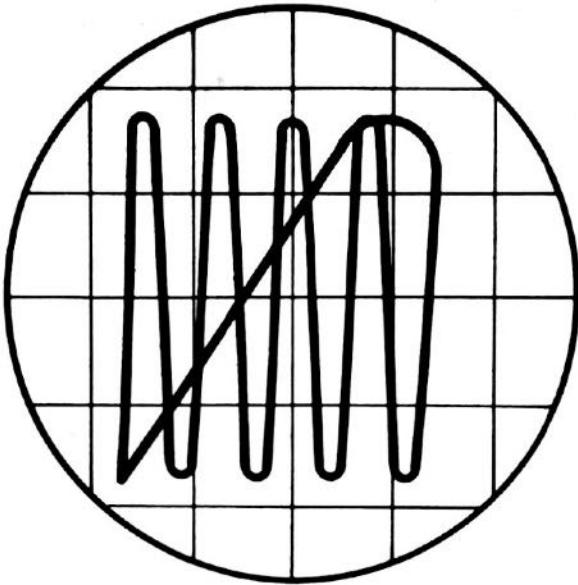
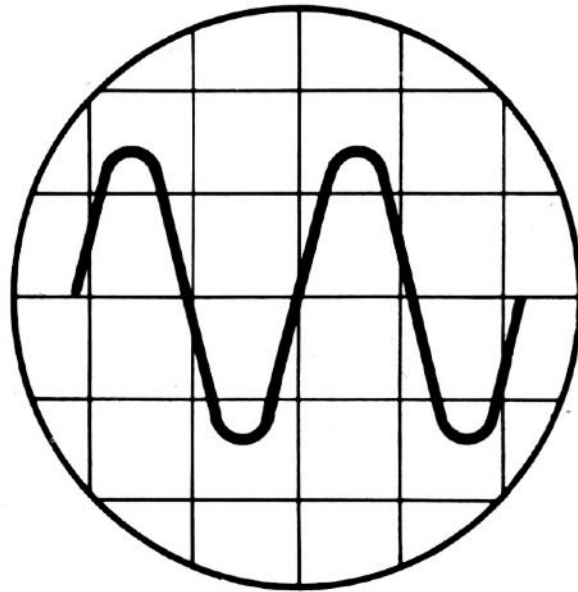

Figure 4-4
Figure 4-5
Connect the source of alternating voltage to be observed to the vertical input (AC) and GND connections. Set the COARSE FREQUENCY control, S104, to the slowest sweep frequency, position "3-18". The SYNC. SELECTOR, S103, should be turned to "INT", while the LOCKING control, R154, is turned to the zero position. Adjust VERT. GAIN R104 and VERT. ATTEN. S101 for suitable vertical deflection. Adjust HOR. GAIN R129 until the pattern is of the desired width. When the pattern first appears it will usually show many cycles as the picture of the sine wave under observation in Figure 4-4. Slowly rotate the VERNIER-FREQUENCY, R158, until the number of cycles decreases to the desired number. If the number is still greater than convenient, then COARSE FREQUENCY S104 should be rotated to the next clockwise position and fewer cycles will appear as shown in Figure 4-5. When the desired number of cycles are obtained, the trace can be locked in by rotating the LOCKING control, R154, either clockwise or counter-clockwise, depending upon whether it is desired to lock in positive or negative synchronizing pulses.